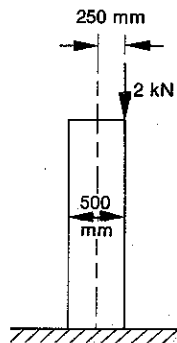

Fig. 5.20
- 5.17 A column 0.5 m wide carries a 2 kN force as shown in Figure 5.20. Reduce the force to an equivalent axial load and a moment.